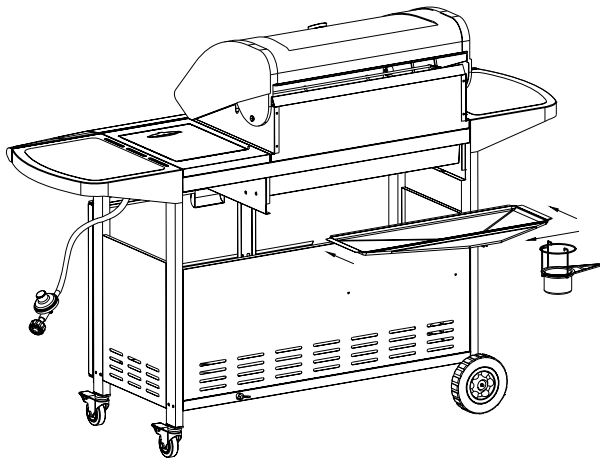

Figure 18
1.Insert grease tray assembly into opening on backside of grill. Make sure to slide tray onto tracks as illustrated. (Fig.18)